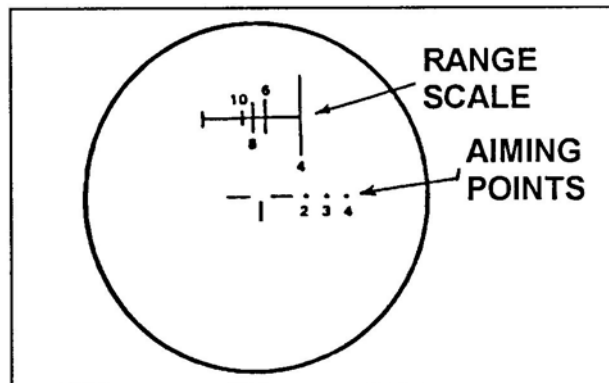

Figure 1. AN/PVS-4 Sight Reticle
2. Use the sight reticle. The AN/PVS-4 sight reticle consists of two parts when used with the M203 (Figure 1).